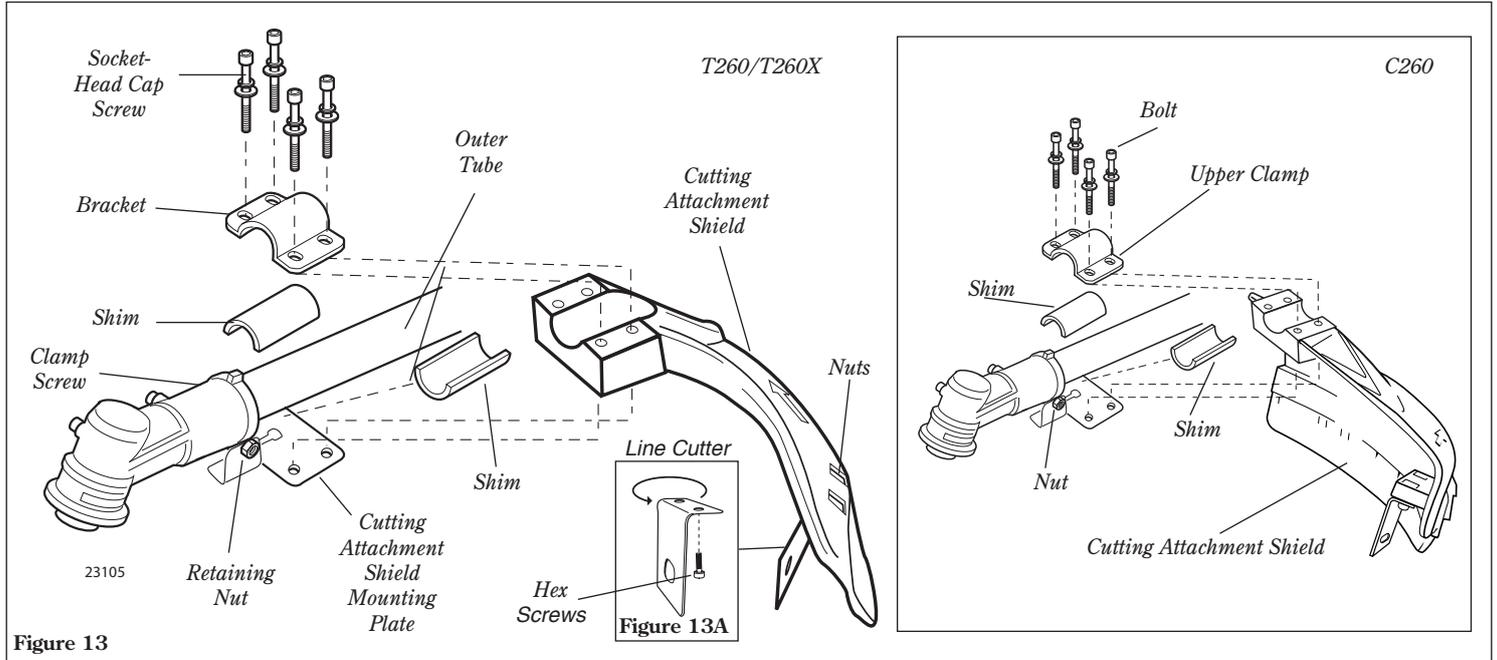

Figure 13
1. Insert the cutting attachment shield between the outer tube and the cutting attachment shield mounting plate. See Figure 13.
2. Fit the two shims and the bracket over the outer tube and loosely install the four socket-head cap screws. See Figure 13.